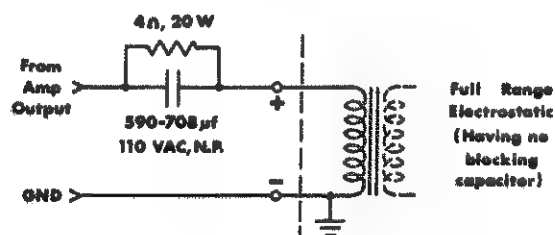

FIG. 2-5
test to determine if such parts are needed is to measure the DC resistance between the output terminals with an ohmmeter. If the resistance is less than 3 ohms, the parts should be added as shown schematically in Fig. 2-5.
3. Never drive a transformer-coupled device or any other device which appears as a low frequency short (less than 3 ohm) without a series isolating capacitor. Such operations may damage the device and/or needlessly activate the V-1 limiting (see Fig. 2-5).